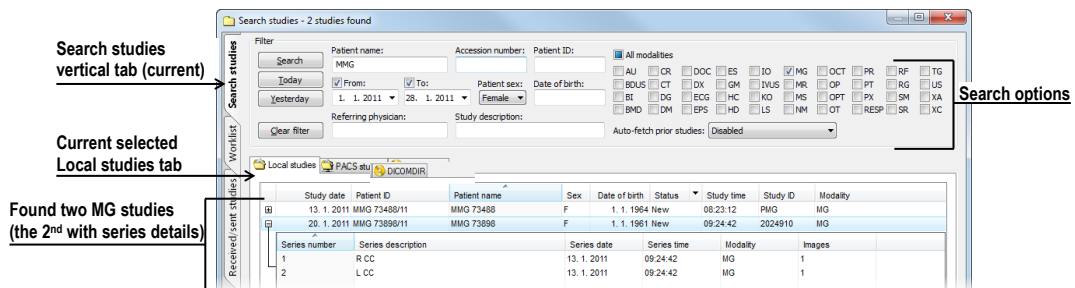

Figure 350 – Opened patient study from the Local studies
- Finding and opening a required study stored in the local studies of TomoCon (see Figure 350) by taking the following steps: